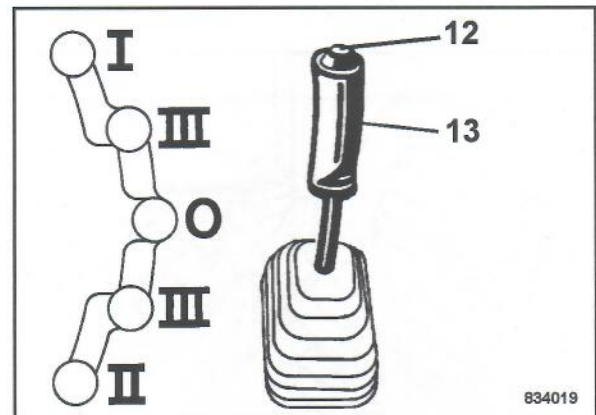

Fig. 43
- Shift the travel lever (13) (Fig. 43) slowly to the desired travel direction to position "III".
- Actuate the vibration push button (12).
- Actuate the vibration push button (12) (Fig. 43) again.